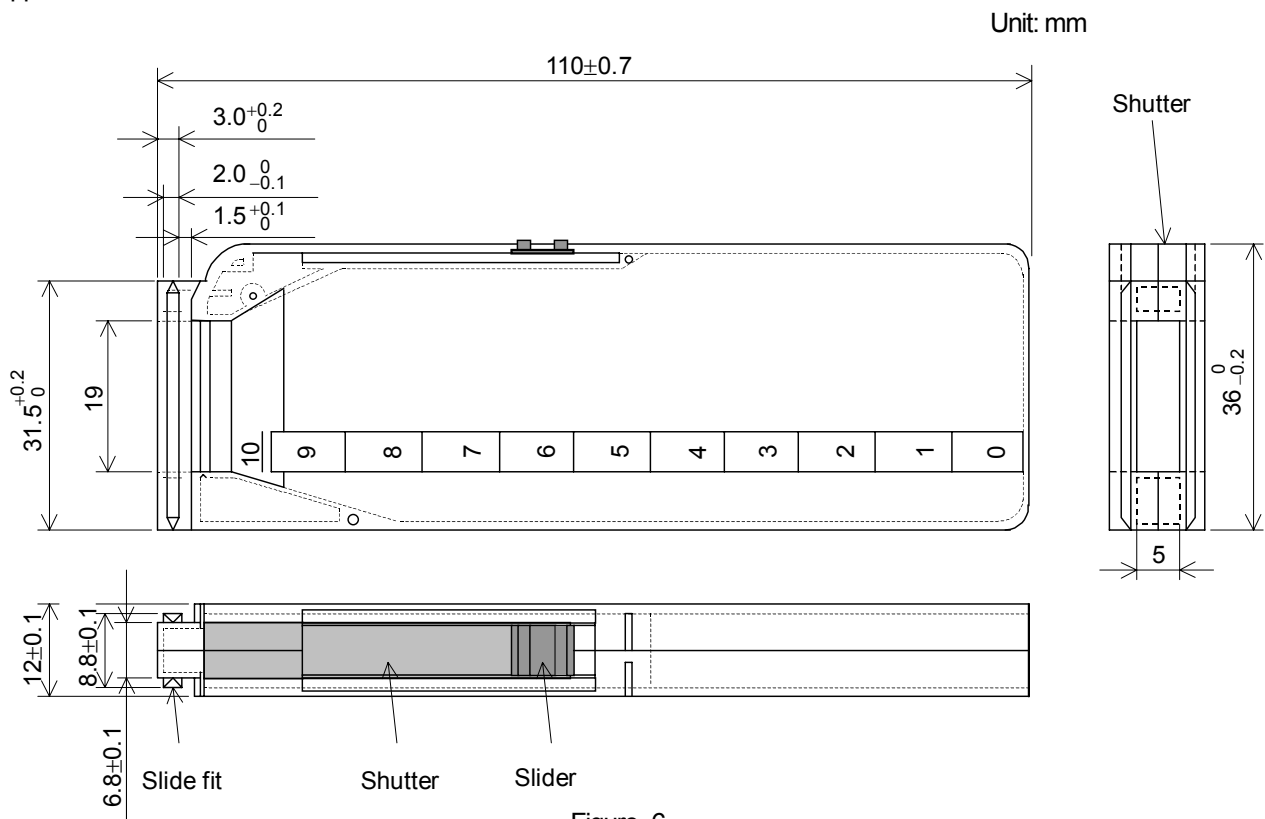

Figure-6
9.2 The bulk case shall be of the design and physical dimensions in accordance with Figure-6.